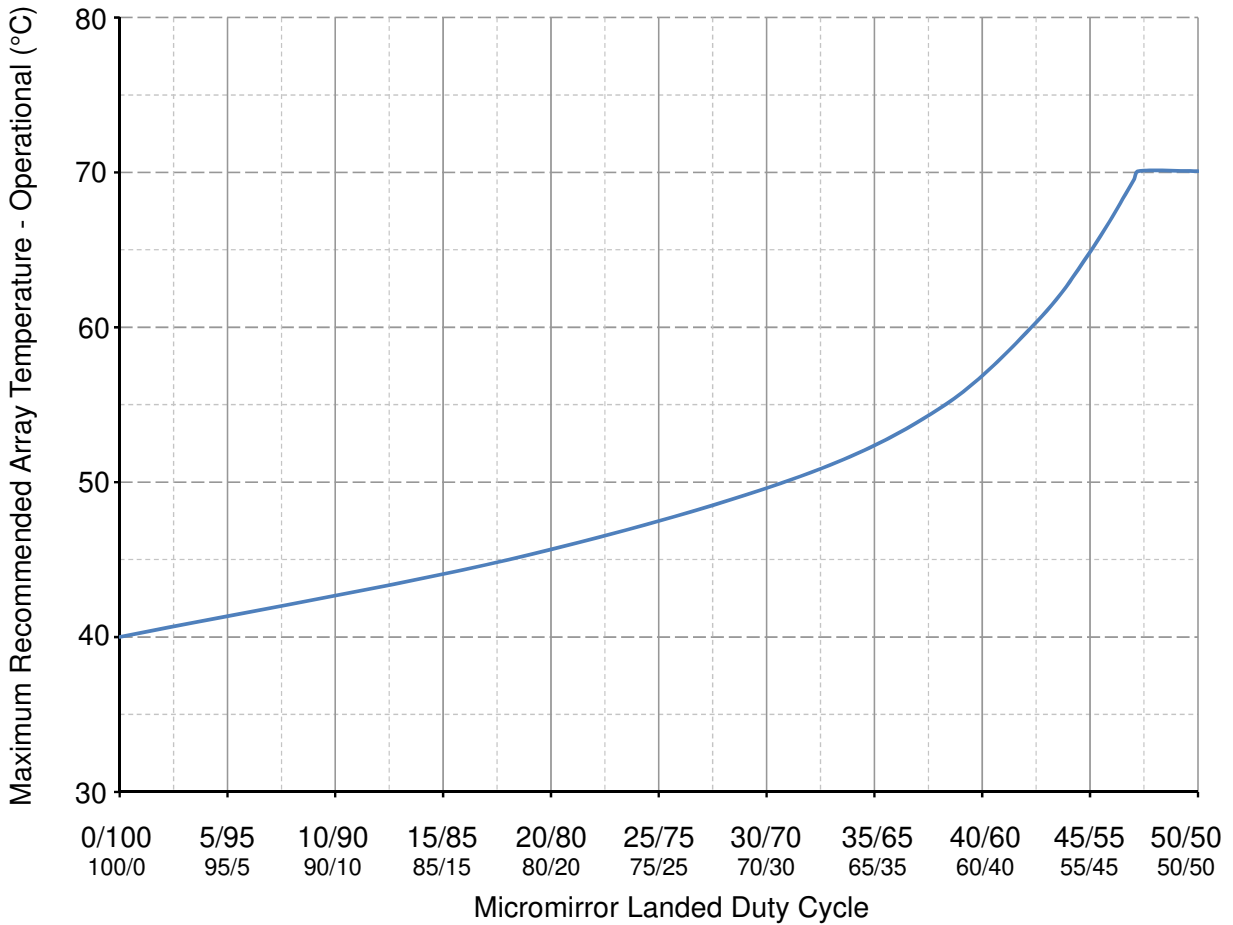
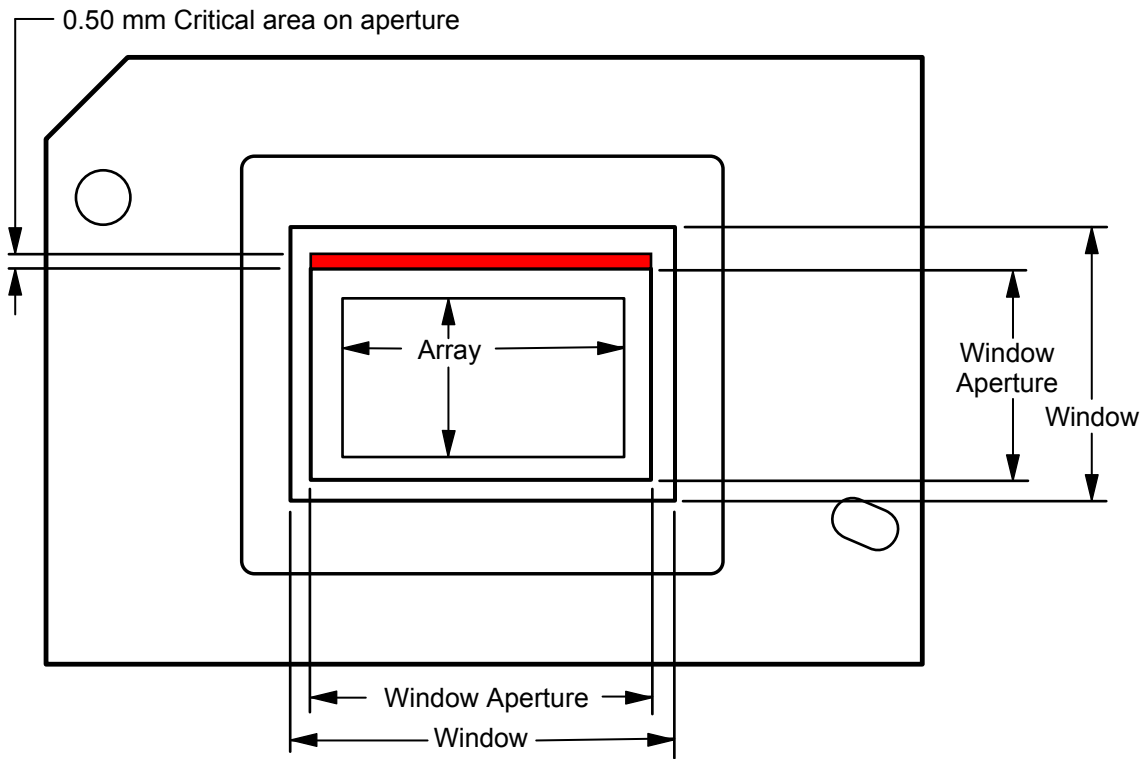

Figure 5-1. Maximum Recommended Array Temperature—Derating Curve
Figure 5-2. Illumination Overfill Diagram—Critical Area
- (11) Long-term is defined as the usable life of the device.
- (12) Per Figure 5-1, the maximum operational array temperature is derated based on the micromirror landed duty cycle that the DMD experiences in the end application. See Section 6.9 for a definition of a micromirror landed duty cycle
- (13) Short-term is the total cumulative time over the useful life of the device.
- (14) The average over time (including storage and operating) that the device is not in the elevated dew point temperature range.
- (15) Exposure to dew point temperatures in the elevated range during storage and operation is limited to less than a total cumulative time of CTEL_R.
- (16) Applies to region defined in Figure 5-2.
- (17) The active area of the DMD is surrounded by an aperture on the inside of the DMD window surface that masks structures of the DMD device assembly from normal view. The aperture is sized to anticipate several optical conditions. Overfill light illuminating the area outside the active array can scatter and create adverse effects to the performance of an end application using the DMD. Minimizing the light flux incident outside the active array is a design requirement of the illumination optical system. Depending on the particular optical